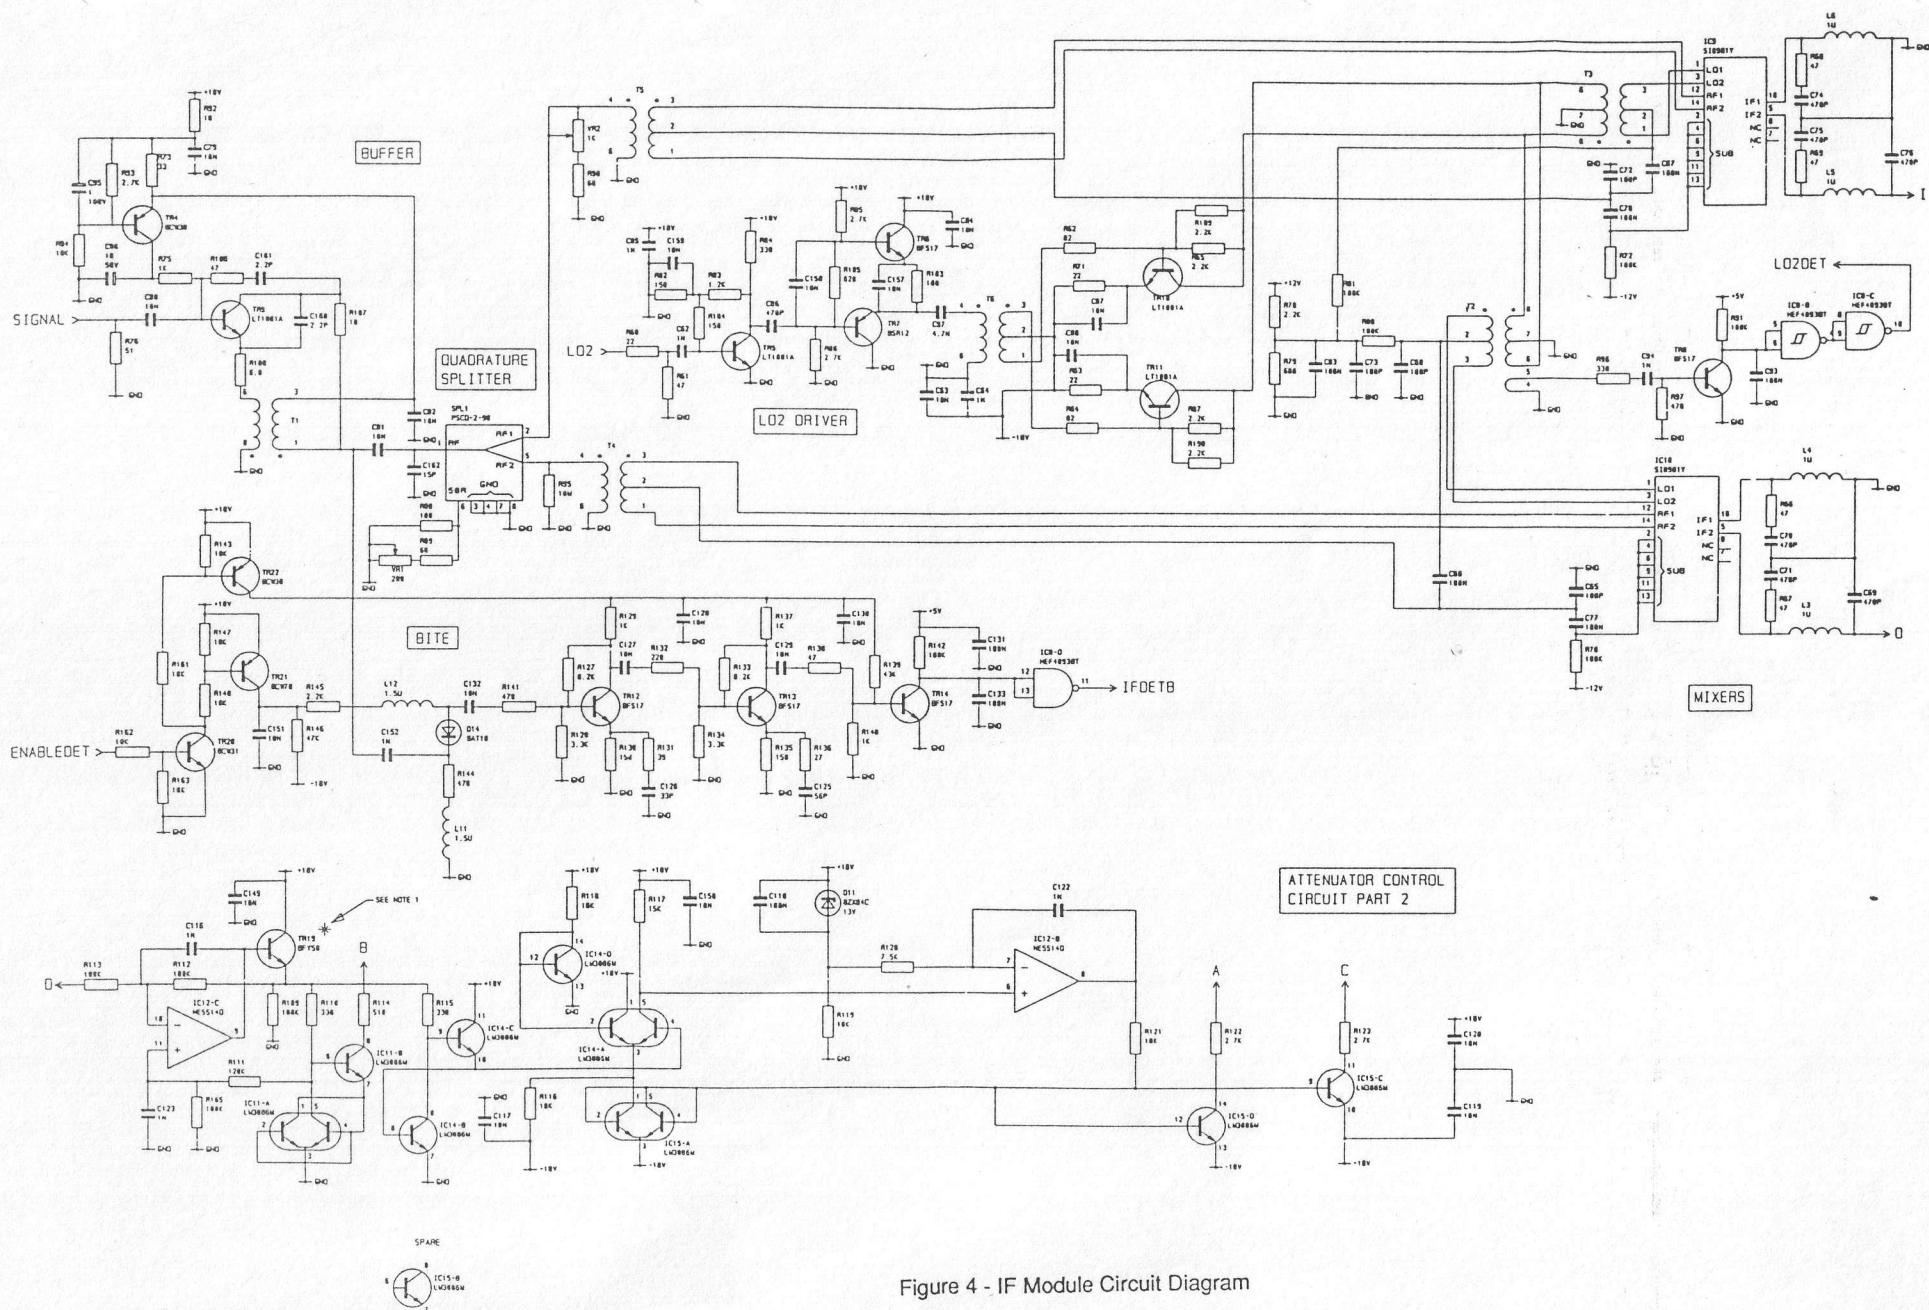

Figure 4 - IF Module Circuit Diagram
- Figure 4 VCO Board Component Layout